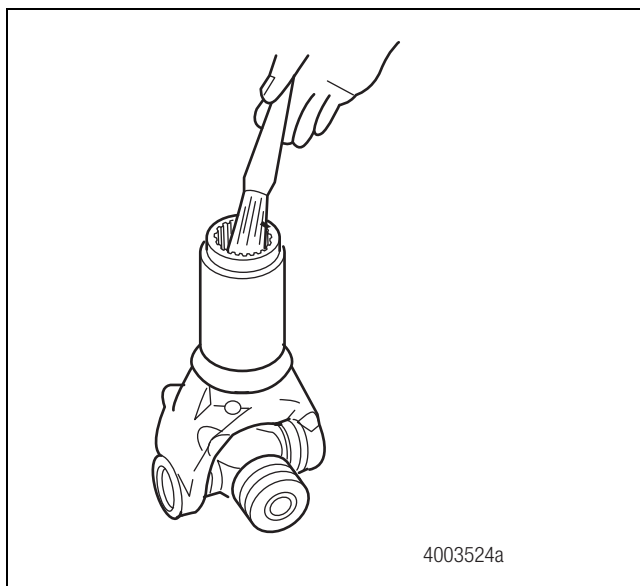

Figure 8.19
3. Use a brush to distribute lubricant on the splines. Figure 8.19.